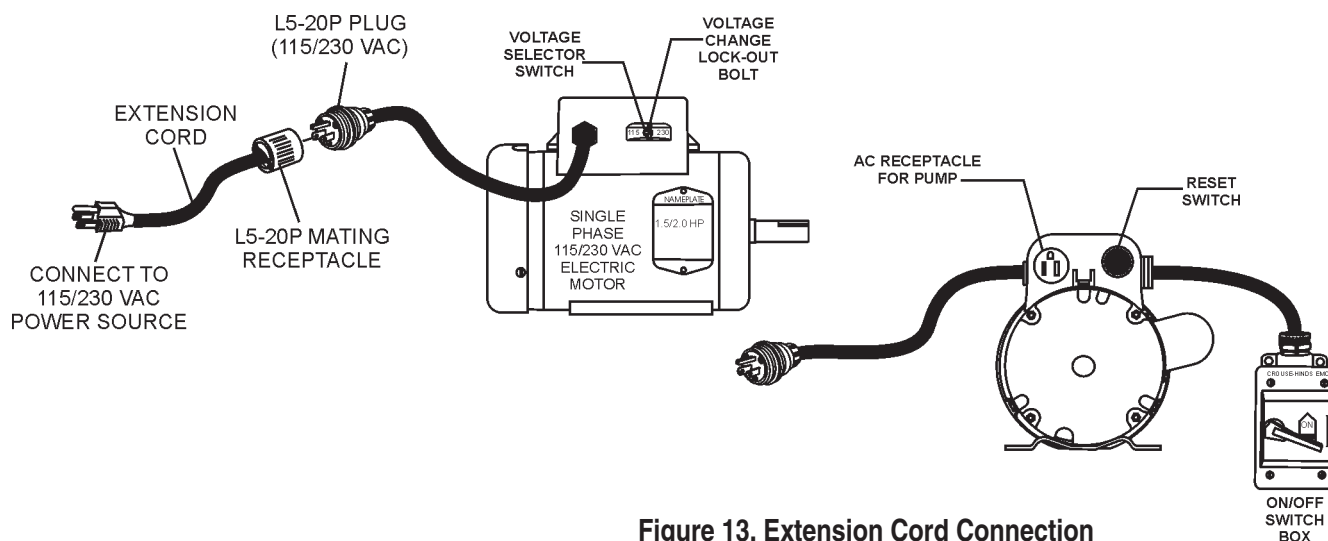

Figure 13. Extension Cord Connection
2. Connect an extension cord (Figure 13) of adequate current carrying capacity to the power plug on the electric motor.